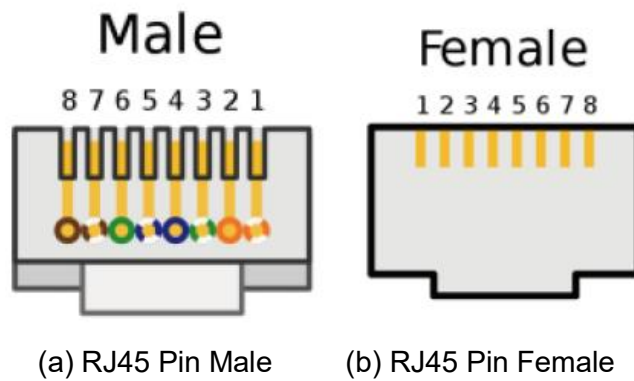

Figure 5-5: Communication Port
1. As shown in Figure 5-5, following the cable connection method of the single battery, connect the positive and negative cables between the Battery 1 and the busbar, Battery 2 and the busbar, and Battery N and the busbar respectively.